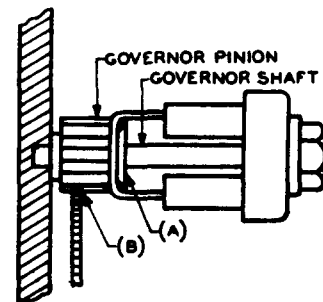

Fig. 1 - Lubricating Governor Pinion
- (6) Fig. 1(A) - One discharge at the right-hand end of the governor pinion.